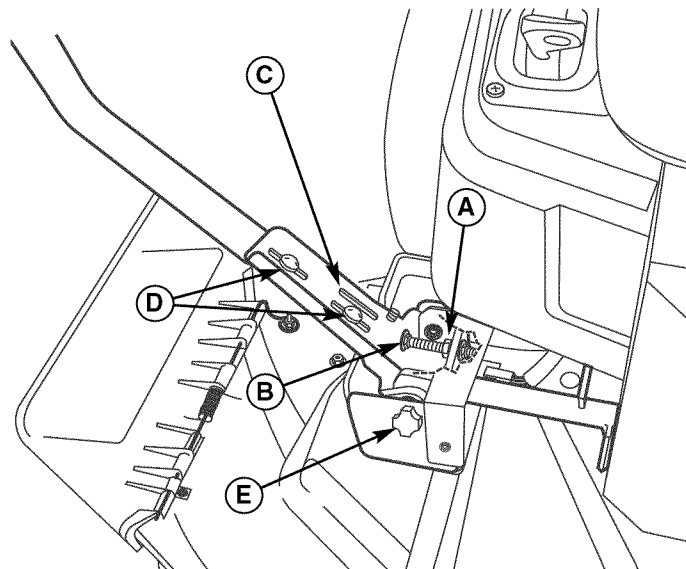

Figure 32. Control Lever Adjustment
To Adjust Control Lever Height: Pull the levers in across the operator's lap to their DRIVE positions. Loosen the mount bolts (D, Figure 32) and raise or lower the levers to the desired position. Tighten the mounting bolts.(D).
To Adjust Control Lever End Gap: The control lever end gap should be adjusted so that the levers do not contact each other when placed in DRIVE positions. Loosen the jam nut (A, Figure 32) and adjust the length of the carriage bolt (B) so that the levers do not contact each other. Repeat on the opposite side. Tighten the jam nut (A) to lock the carriage bolt in position.
To Adjust Operator Clearance: The space between the operator and the control levers can be increased by removing the lower mounting bolt (D, Figure 32), pivoting the lever forward, and reinstalling the capscrew through the control lever and forward slot (C). Repeat with the other ground speed lever.
If the rider veers to the right or left when the ground speed control levers are in the maximum forward position, the top speed of the right lever can be balanced by turning the adjustment knob (E, Figure 32). Loosen the jam nut and turn the knob COUNTERCLOCKWISE to increase speed or CLOCKWISE to decrease speed. Tighten the jam nut when complete.